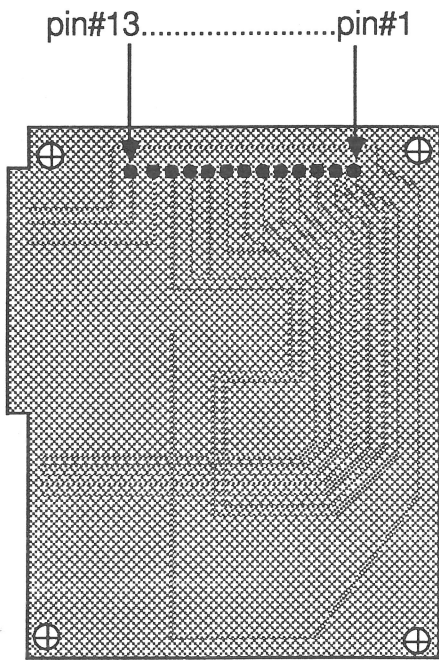

FIGURE 14
- 3. Connect the multimeter between the pins of the control panel PCA connector listed below and check to see if the resistance reads 0 ohms when the corresponding control panel switch is depressed. Refer to Figure 14 to determine the location of each pin.